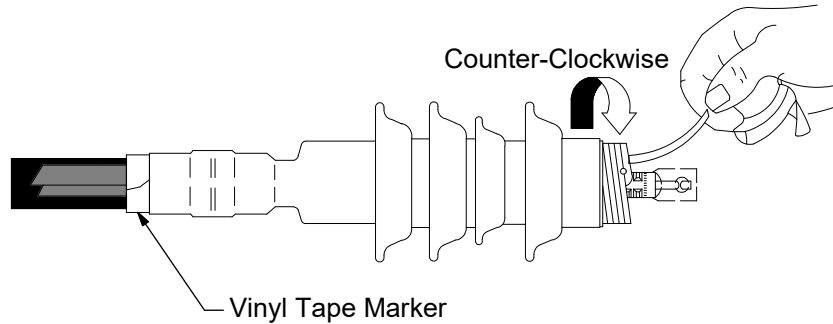

Figure 6A
- Position the terminator body on the cable. The base of the terminator body (not the core), must be butted up to the edge of the vinyl marker tape. Remove the core while unwinding in a counter-clockwise direction. Once the terminator body has made contact over the mastic seal area, there is no need to continue supporting the assembly **DO NOT** push or pull the terminator while unwinding the core. See Figure 6A.